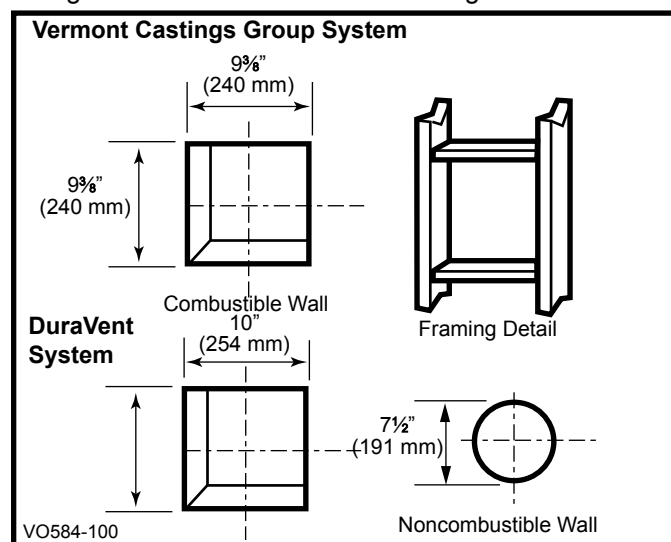
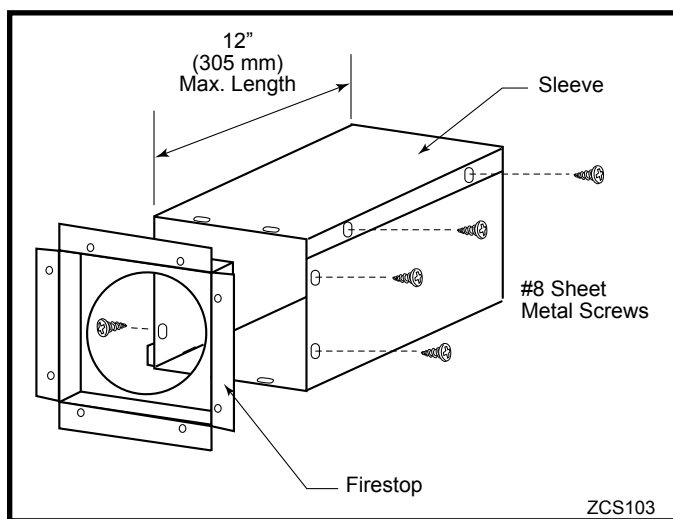

Figure 23 Locate vent opening.
Figure 24 Assemble the wall sleeve and firestop.
1. Locate the vent opening on the wall. Refer to Page 7, Figure 6, to determine the opening centerline. It may be necessary to first position the stove and measure to find the hole location. Depending on whether the wall is made of combustible materials, cut the opening to the size shown in Figure 24. Combustible wall openings must be framed as shown in Figure 23.
2. Measure the wall thickness and cut the wall sleeve sections to proper length (MAXIMUM 12"). Assemble the sleeve with the #8 sheet metal screws supplied. Attach the firestop plate to the sleeve end with the holes. (Figure 24) **NOTE:** The wall sleeve is required in combustible walls only.
3. Install the Wall Firestop/Sleeve assembly into the wall cutout and fasten the firestop to the wall cutout framing members. (Figure 24)